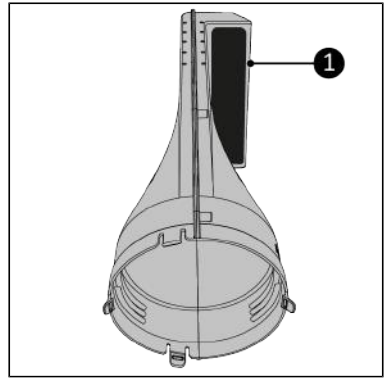

Figure 69.
4. Place the Way-out in front of you. Make sure the round opening is facing towards you (Figure 69).
5. Make sure the air outlet (Figure 69, pos. 1) is pointing to the right.